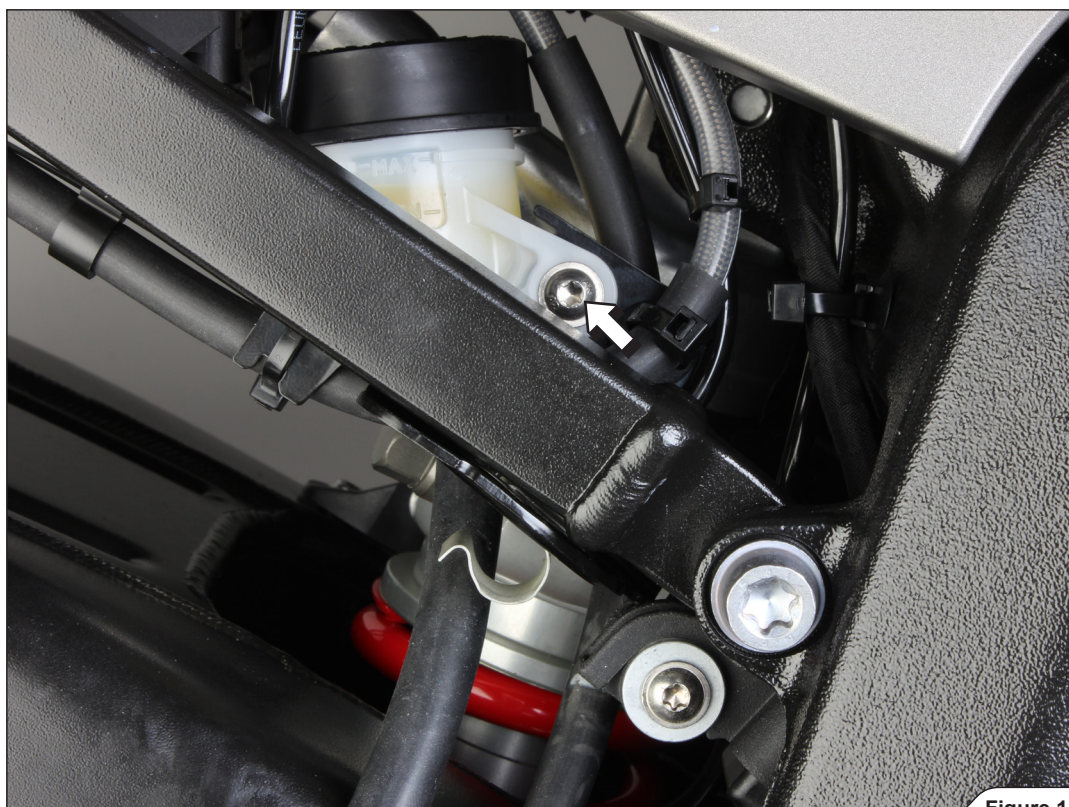

Figure 14
11. Unscrew the rear brake's reservoir and carefully move the reservoir and bracket out of the way (Figure 14).